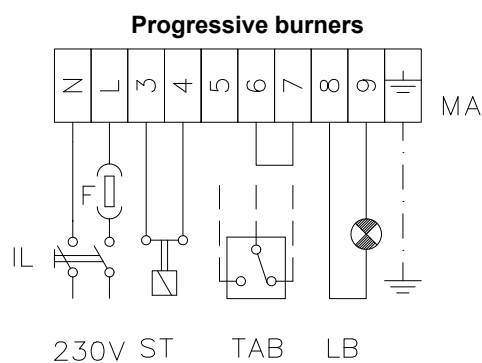
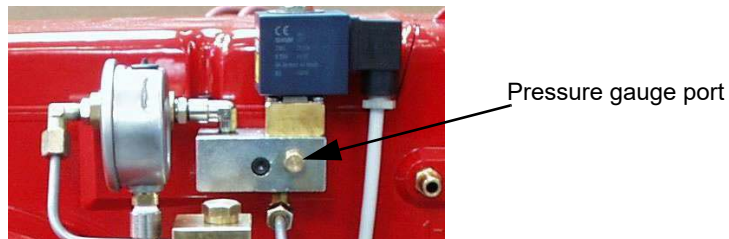
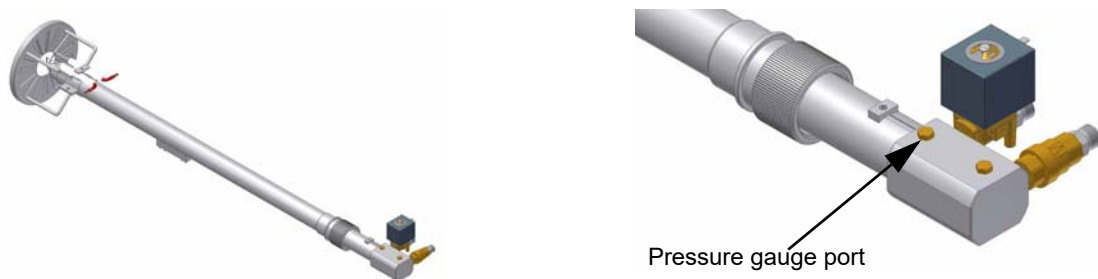

Fig. 10
Fig. 14 - Light oil manifold (PG60)
Fig. 15 - Combustion head with light oil gun (PG70 - PG81)
- 9 the nozzle supply pressure is already factory-set and must not be changed. Only if necessary, adjust the supply pressure as follows (see related paragraph);insert a pressure gauge into the port shown on Fig. 14-Fig. 15 and act on the pump adjusting screw **VR** (see Fig. 13) as to get the nozzle pressure at 20bar (Bergonzo nozzles - see diagram on Fig. 10).